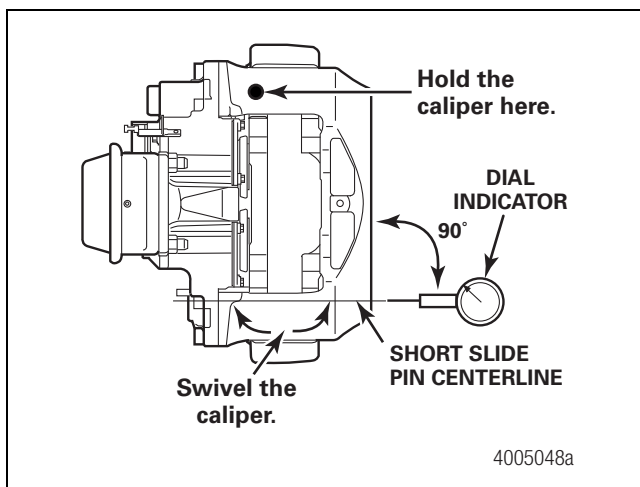
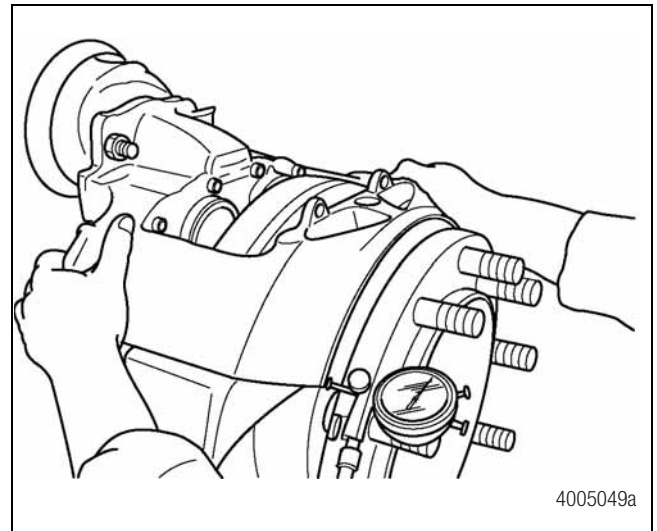

Figure 4.14
Figure 4.15
1. With the pads removed, pull the caliper housing assembly **OUTWARD** toward the wheel flange. Attach a dial indicator so that it is in line with the centerline of the short slide pin. Attach the indicator to the hub. Figure 4.14.
2. Hold the caliper so that it cannot move. Swivel the caliper until it stops in one direction. Set the gauge to **ZERO**. Figure 4.14 and Figure 4.15.
3. Move the housing in the opposite direction until it stops. Figure 4.15. The maximum acceptable reading is 0.118-inch (3 mm).